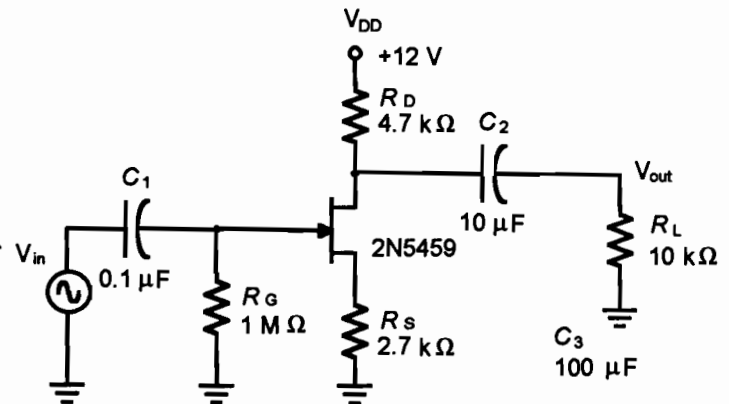

Figure 32.1
1. Ensure that you have the circuit of Figure 32.1 connected.  $R_G$  is used to keep the gate of the JFET at zero volts to prevent input signal loading. Simulate an open gate resistor by disconnecting the ground lead of  $R_G$  from the circuit.
1. For the circuit of Figure 32.1, if  $g_m = 3500 \mu\text{S}$ ,  $R_S = 2.2 \text{ k}\Omega$ , determine  $A_v$ .